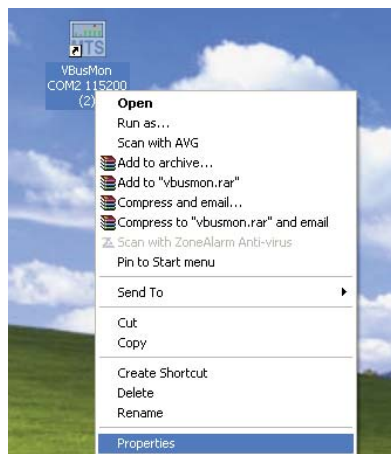

Figure 2.30: Desktop shortcut and properties menu
- The VBUSMON software needs to be set up to communicate through the COM3 port rather than the COM1 or COM2 port. This is done by creating a shortcut on the desktop and right clicking on the shortcut to open its properties (see Figure 2.30).